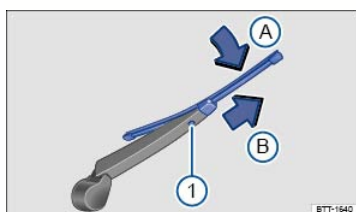

Fig. 161 Changing the rear window wiper blades.
- Lift the wiper arm away from the rear window in the direction of arrow  ⇒ Fig. 161.
- Press and hold the release button ⇒ Fig. 161 .
- Install a new wiper blade of the **same length and type** onto the wiper arm by pushing in the opposite direction of the arrow ⇒ Fig. 161  until it latches.